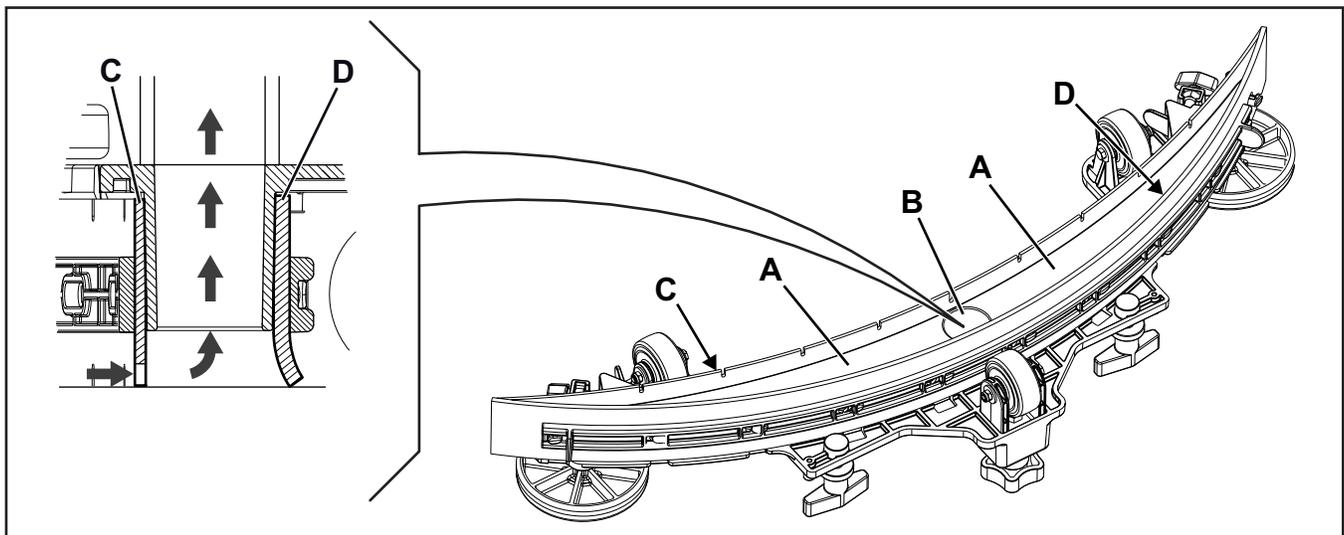

Figure 2
4. Wash and clean the squeegee. In particular, clean the compartments (A) (Figure 2) and the vacuum hole (B). Check that the front blade (C) and the rear blade (D) are integral and free from cuts and lacerations; if necessary replace them.